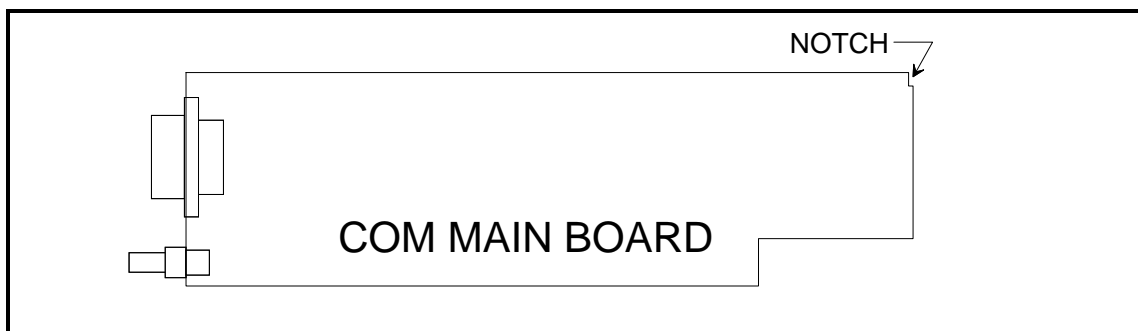

Figure 6. Com Main Board Outline
*NOTE: There is a small notch in the upper right corner of the Com Main board (See **Figure 6**) that allows the board to just clear the tab on the display bezel when the board is properly positioned. If more than a very slight forward pressure on the bezel is required to remove the Com Main board, check the position of the board in the chassis and ensure that the notch is aligned with the tab on the bezel.*
2. Ensure that the notch in the upper right corner of the board (see Figure 6) is aligned with the tab on the display bezel and push the board down into the chassis. If more than a very slight forward pressure on the bezel is required to replace the Com Main board, reposition of the board in the chassis and ensure that the notch is aligned with the tab on the bezel.